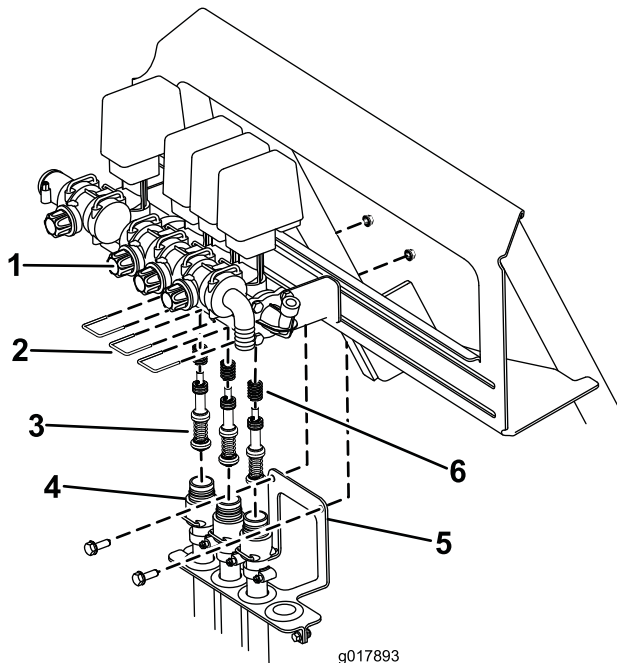

Figure 69
- B. Remove the 3 forks securing the valve seats to the valve assembly (Figure 69).
- C. Remove the 2 screws and nuts securing the hose loom bracket to the sprayer frame (Figure 69). Lower the hoses away from the valve assembly.
- D. Using a 3 mm Allen wrench, remove the screws securing the piston assemblies in the valve assembly. Make sure to account for the springs in the valve (Figure 69).